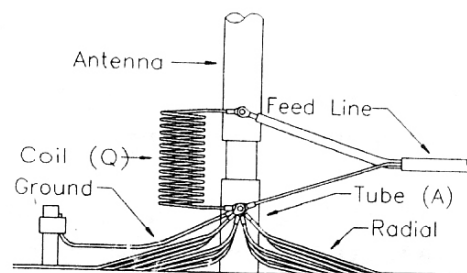

Figure 1
1. Refer to figure 1 and set the 80 meter coil so that the distance between the upper edge of the lower coil clamp to the lower edge of the center clamp around the insulator is 14 inches or approximately 35.6 centimeters. The 40 meter coil should be adjusted so that the distance between the lower edge of the upper clamp and the upper edge of the center clamp is 10 inches or approximately 25.4 centimeters.
3. Insert a copper ground rod 6 to 12 in (15.2 to 30.5 cm) from tube w/insulator (A). The ground rod should be at least 48 in (1.2 m) in length.
4. Attach radials onto the screw protruding from tube w/insulator (A) along with coil (Q) base matching, braid side of the feed line and bonding wire from the ground rod as shown in figure 1. Secure with the supplied flat washers and hex nuts.